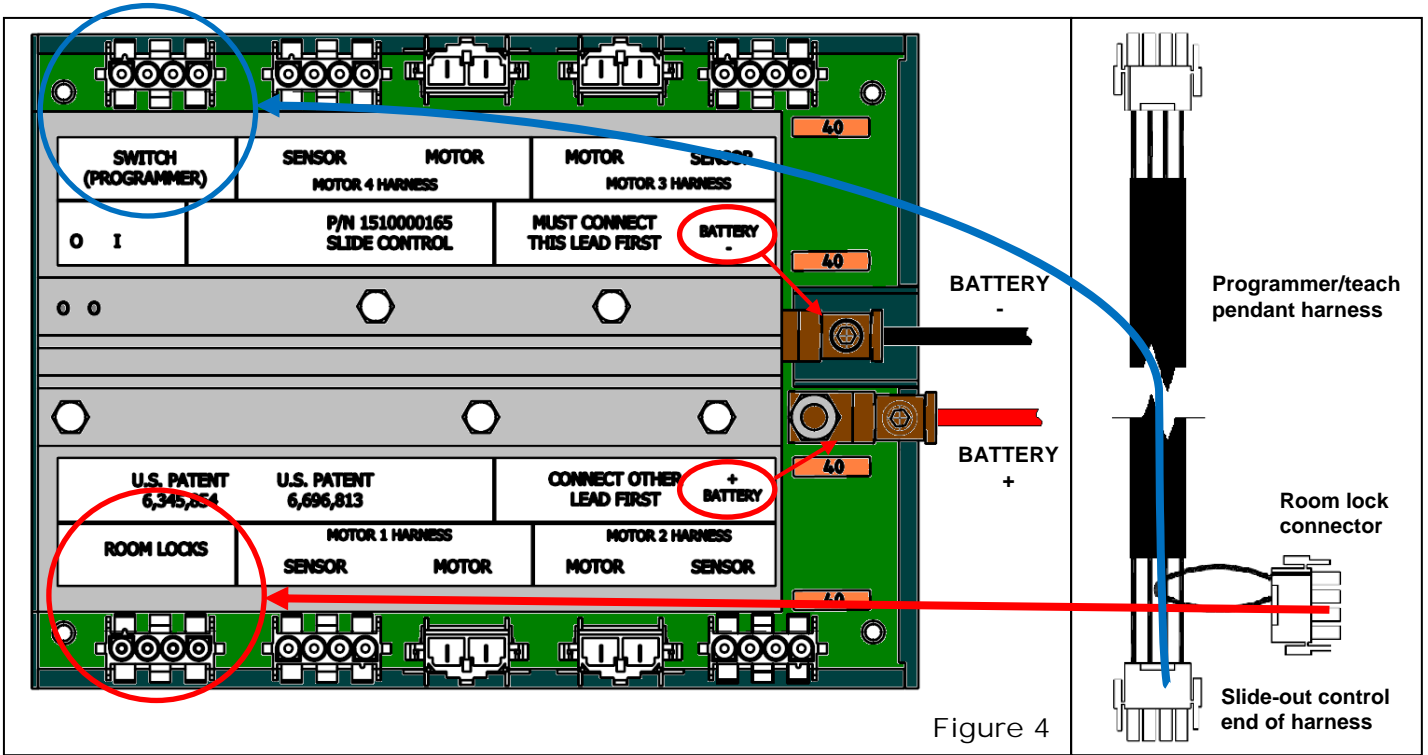

Figure 4
2. Run the coach engine and verify the incoming voltage to the slide-out control box between the **BATTERY (-)** and **BATTERY (+)** at control box terminals (see **FIGURE 4, page 3**). The incoming power needs to be +13.1V DC or more.
- b. Insert the controller end of the harness into the connector labeled **SWITCH (PROGRAMMER)** on the slide-out control board (see **FIGURE 4, page 3**).
- c. Insert the room lock connector of the programmer/teach pendant harness into the connector labeled **ROOM LOCKS** on the slide-out control board (see **FIGURE 4, page 3**).